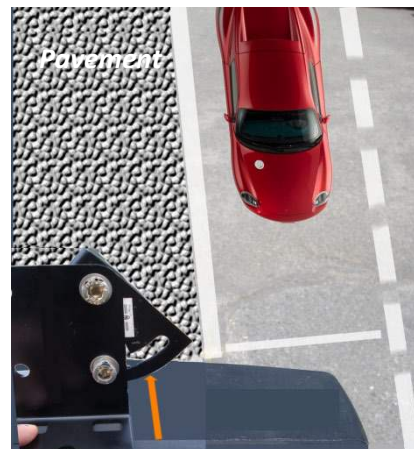

Figure 10: bracket position, parallel to the traffic
4. Once you are behind the radar, place the second screw in the lower right hole. Don't tighten it completely. The radar bracket n°1 must be parallel to the approaching lane. See orange arrow example on Figure 10.
- The tilt angle must be in direction of the pavement, which means the side where the traffic light is. When you are in front of the radar: if the traffic light is on the right side of the vehicles, the housing of the radar has to be inclined to the right (Figure 10 & Figure 12). If the traffic light is on the left side of the vehicles, the housing of the radar has to be inclined to the left (Figure 13 & Figure 14).